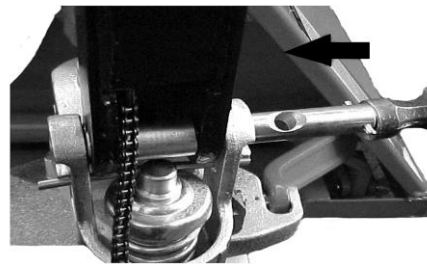

Fig. 6: Axle assembly
a) Insert the drawbar arm (1) into the pump piston. Then use a hammer to insert the axle with the hole into the hydraulic pump and the drawbar arm from right to left (Fig. 6).